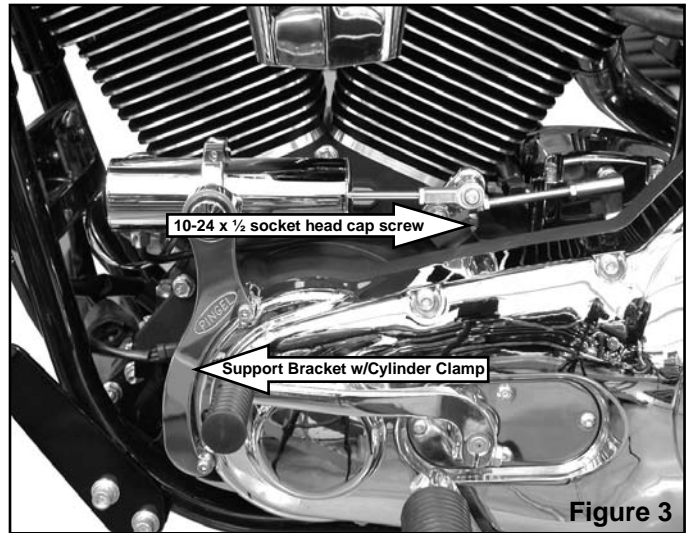

Figure 3
Install the electric shift cylinder onto the shift cylinder to engine support bracket using the Pingel clamp and (2) 1/4-20 x 3/4" socket head cap screws, adjusting the cylinder so the clamp is approximately 2/3 front to back (see figure 3). Just snug these bolts for now, as adjustment will be needed.